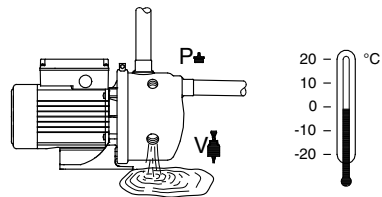

Fig. 8 Draining the pump
To drain the pump, remove the plug (P) and the plug or the ejector valve (V). See fig. 8.